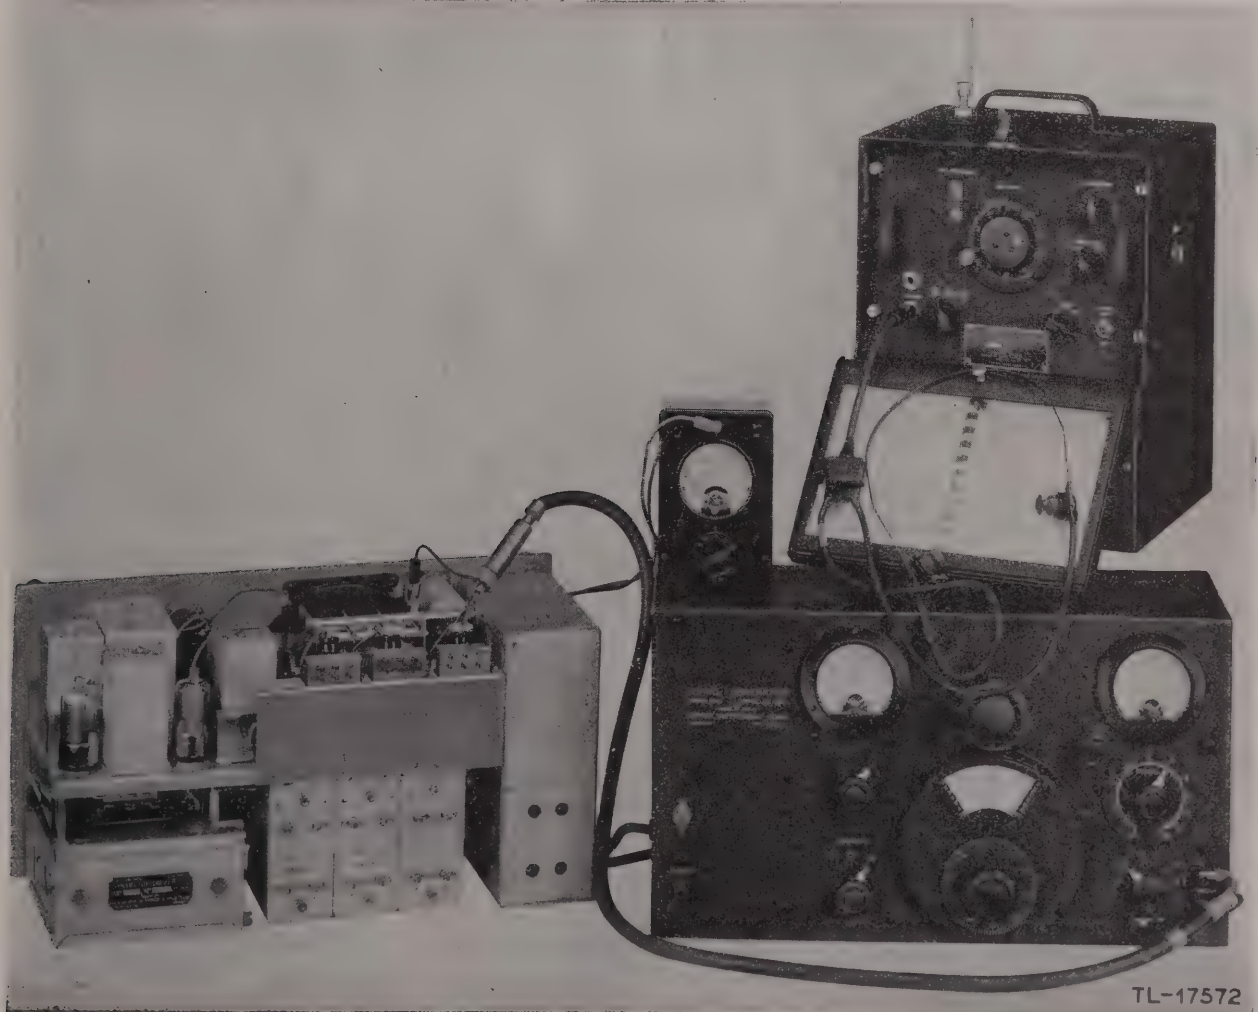

Figure 14. R-f alignment, typical set-up.
b. PREPARATION. Set up the receiver and alignment equipment as shown in figure 14. Calibrate the signal generator for a 255-kc signal (par. 16). Set the receiver BAND CHANGE switch on band A, the OFF-M.V.C.-A.V.C. switch to M.V.C., the